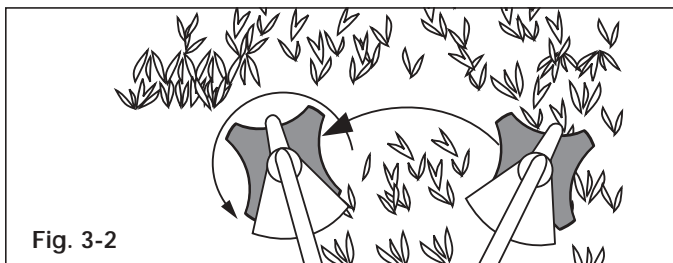

Fig. 3-2
- Swing the unit into material to be cut from your right to your left (Fig. 3-2).